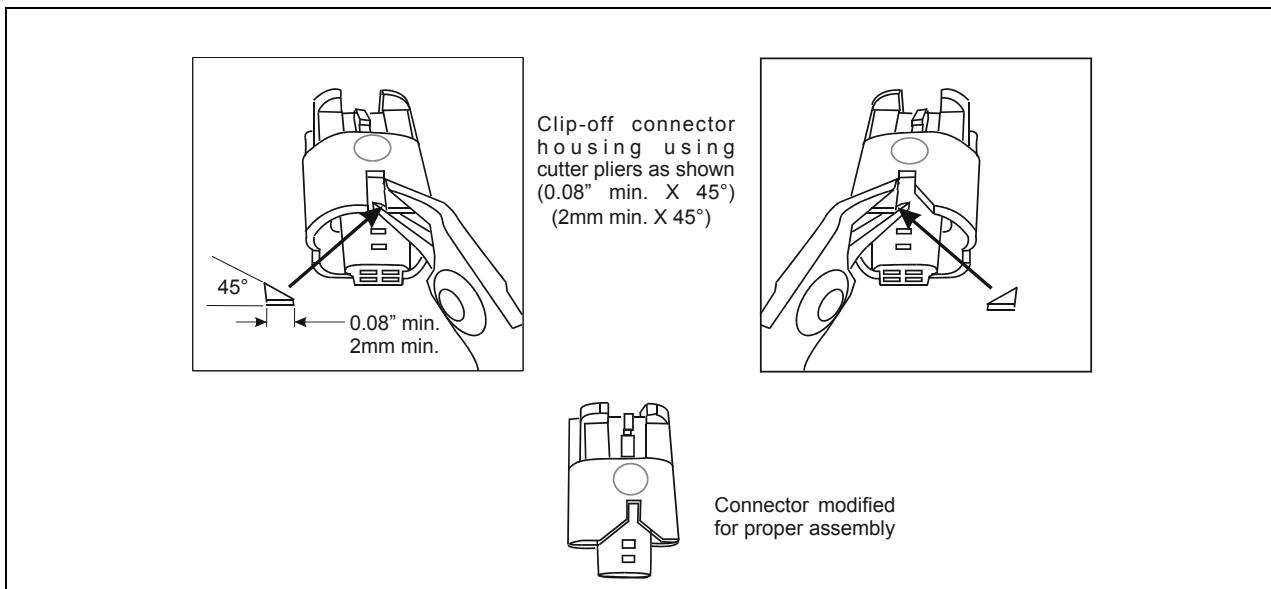

Figure 2: MODIFICATION OF THE CONNECTORS
2. Modify the connectors as shown on figure 2.